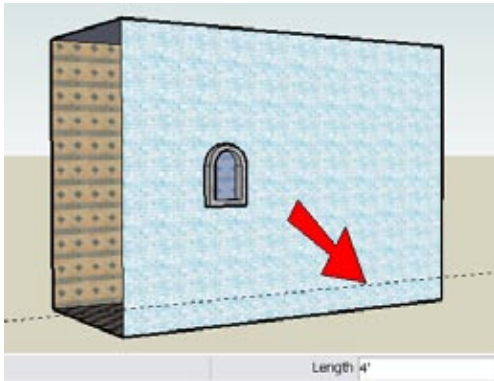

Figure 1-21
3. To make the offset exact, type the offset distance and press Enter. For this example, type 4' for 4 feet (Figure 1-21).